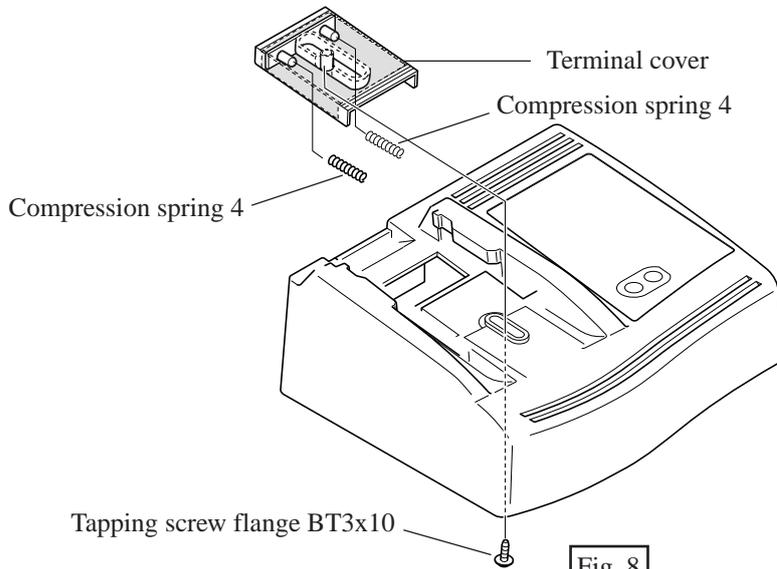

Fig. 8
- (2) Take off tapping screw flange BT3x10. Then, terminal cover can be removed from charger case. Be careful, not to lose 2 pcs. of compression springs 4 in this step. See Fig. 8.